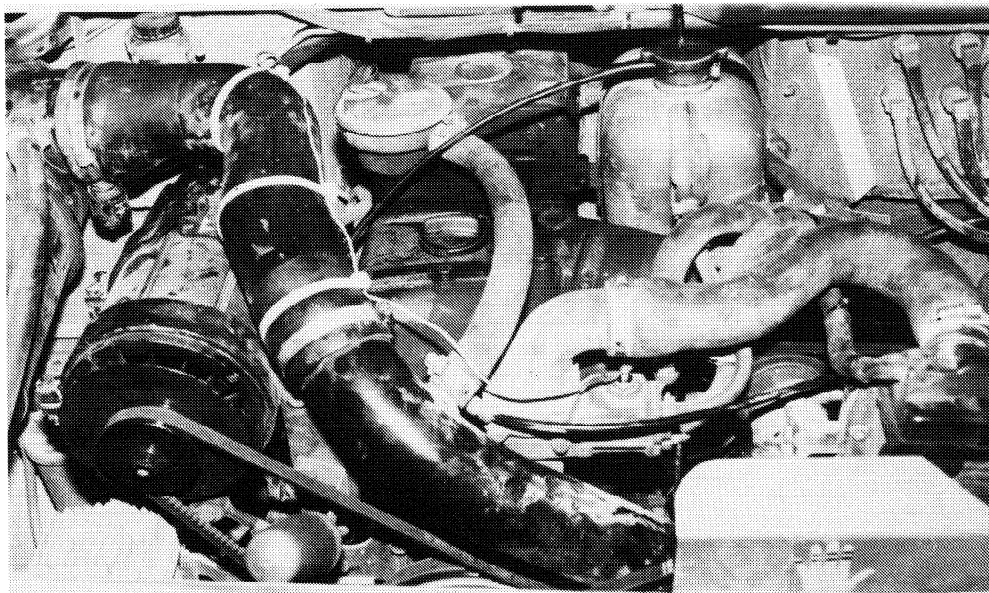

FIG 3 - SENSOR WIRE ROUTING DETAIL
- k. Using item 2 of Table 1 secure the wire to the air cleaner to engine hose as shown at Fig 3, ensuring that the wire does not lay on the engine valve cover.